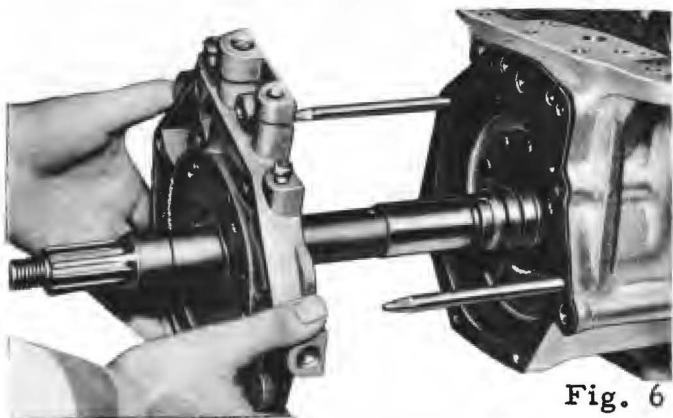

Fig. 6
- ☒ Slide the output shaft rear support assembly and gasket from the transmission case (Fig. 6).